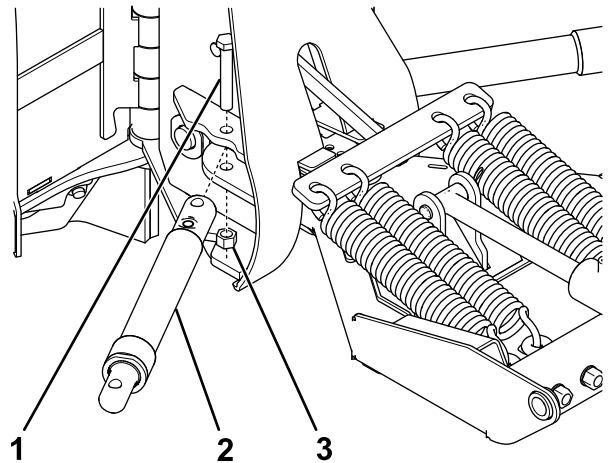

Figure 8
- Secure the 2 angle cylinders to the blade center using a bolt (5/8 inch) and top locknut (Figure 8).